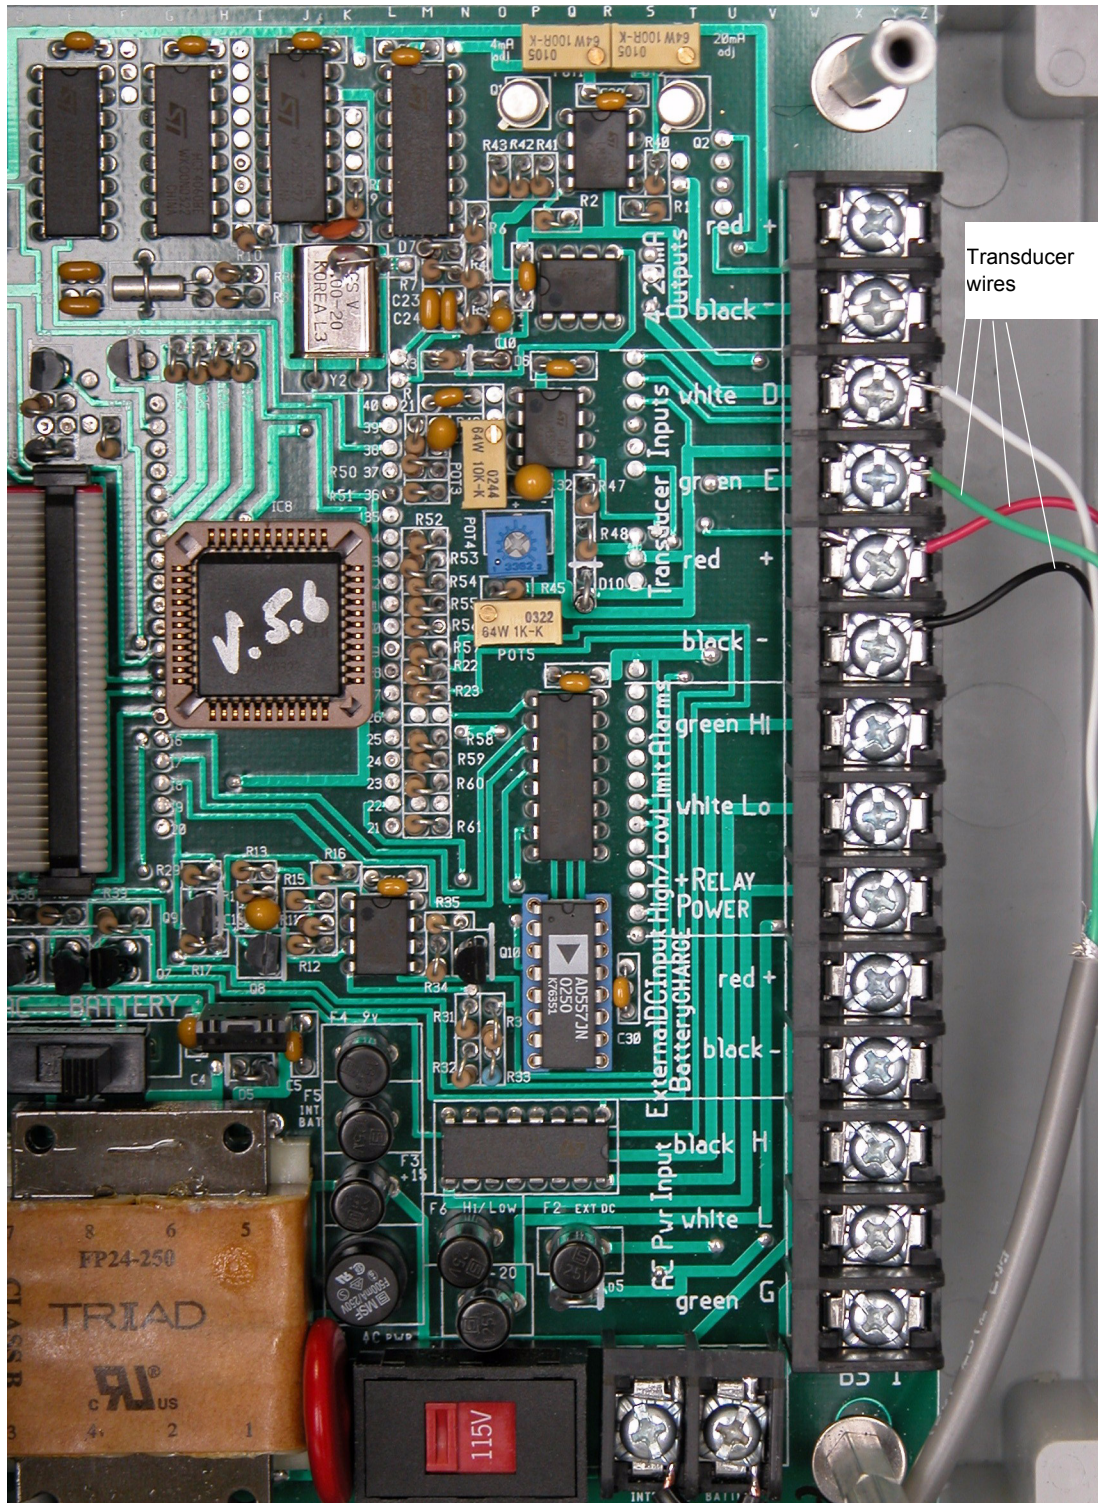
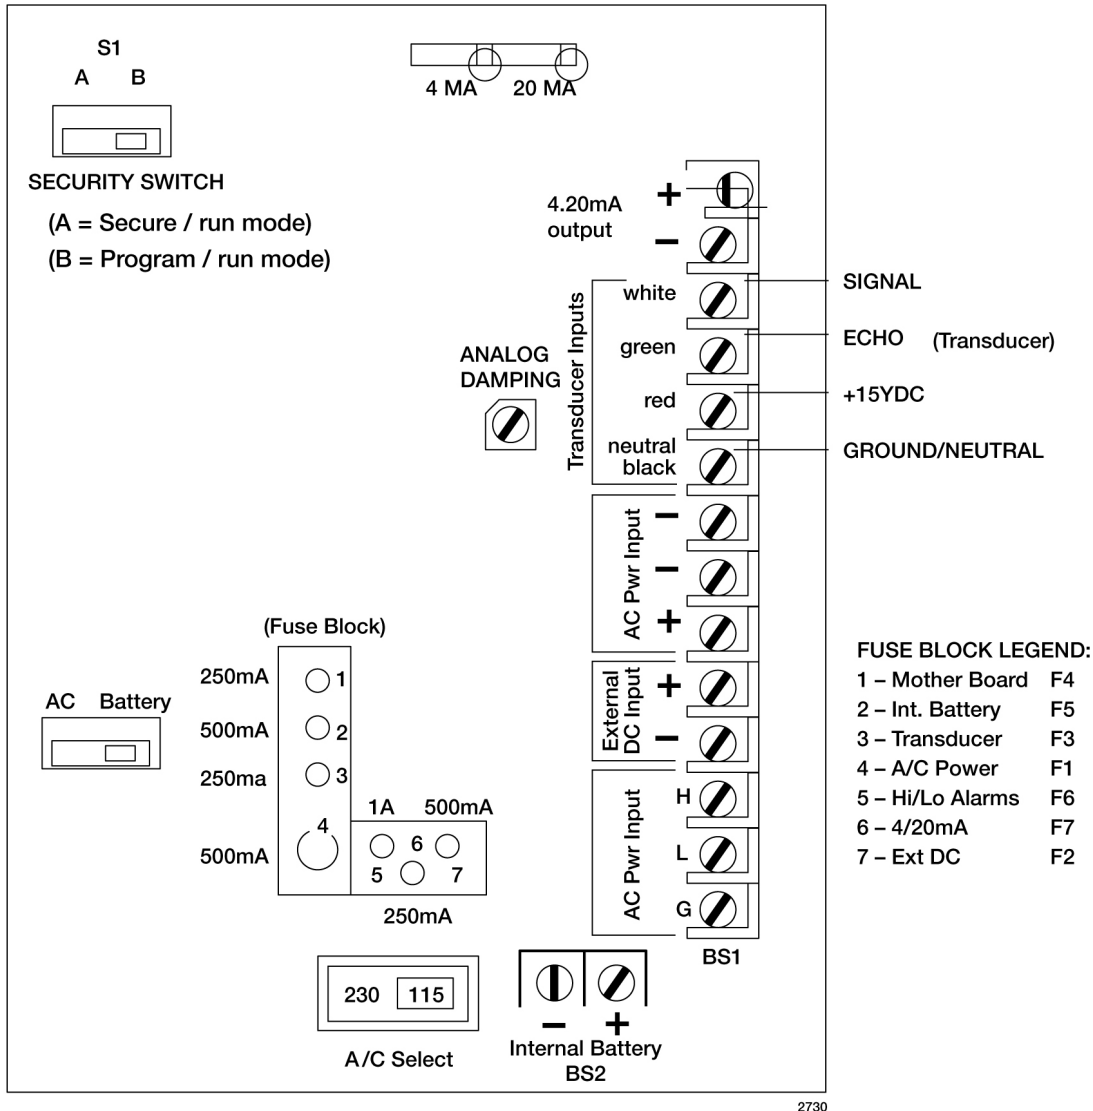

Figure 2-6. Main electronics board connections
Figure 2-8. Another view of processor board connections
1. Ensure AC or battery (DC) input power is turned off.
3. Connect the transducer wires to the processor board as shown in Figure 2-6 on page 2-12 for correct placement. The transducer 4-wire connection is as follows:
- ▶ If needed, connect the AC power cable wires to the **AC Pwr Input (117/220 VAC)** section of the processor board using Figure 2-6 and Figure 2-8 as a guide, making sure to properly connect ground.
- ▶ Move the **AC/ Battery (DC)** switch to the AC side. See Figure 2-8 for switch locations.
- ▶ If needed, connect the DC power cable wires to the **Internal Battery** section of the processor board using Figure 2-6 and Figure 2-8 as a guide.
- ▶ Move the **AC/ Battery** switch to the **Battery** (DC) side. See Figure 2-8 for the switch location.
3. The security switch (called “S1” on the electronics board) is located in the upper left corner of the processor board, See Figure 2-8 to find the location of this switch. While programming, the switch was on the “B” side (Program/ run mode).